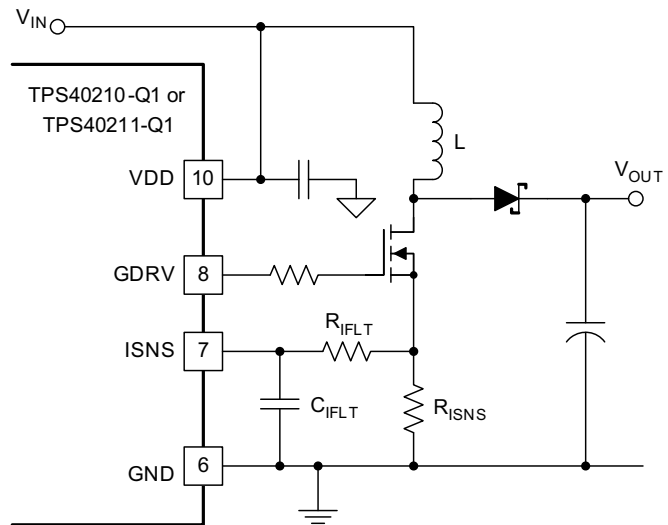

Figure 21. Current Sense Components
- V_D is the drop across the diode in Figure 21
- (9)
It is possible to increase the voltage compensation ramp slope by connecting the V_{DD} pin to the output voltage of the converter instead of the input voltage as shown in Figure 21. This can help in situations where the converter design calls for a large ripple current value in relation to the desired output current limit setting.
In most cases, a small filter placed on the ISNS pin improves performance of the converter. These are the components R_{IFLT} and C_{IFLT} in Figure 21. The time constant of this filter should be approximately 10% of the nominal pulse width of the converter. The pulse width can be found using Equation 10.